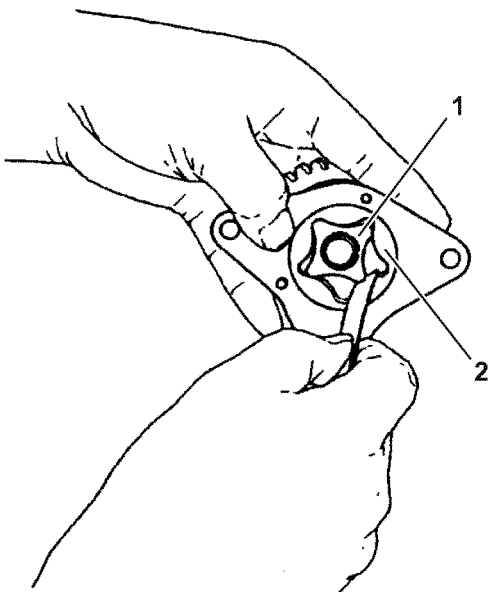

**Figure 9-17**
Inspect the outside diameter clearance of the outer rotor. To inspect this, insert a feeler gauge between the outer rotor (**Figure 9-17, (1)**) and the lubricating oil pump body (**Figure 9-17, (2)**).